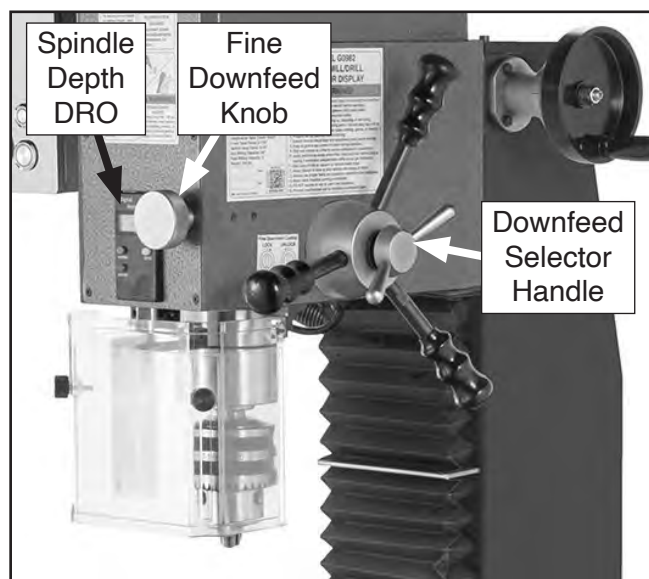

Figure 30. Fine spindle downfeed components (G0982 shown).
The fine downfeed knob allows for a precise amount of material to be removed from the workpiece (see **Figure 30**).
2. Tighten downfeed selector handle (see **Figure 30**) to engage fine downfeed knob.